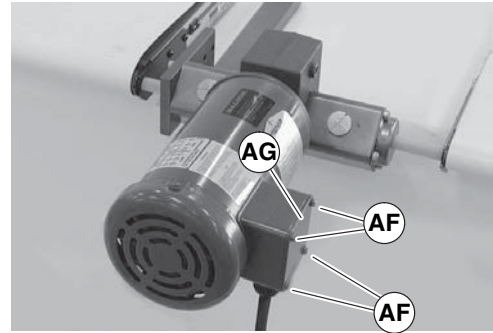

Figure 40
- Loosen terminal box screws (Figure 40, item AF) and remove cover (AG).